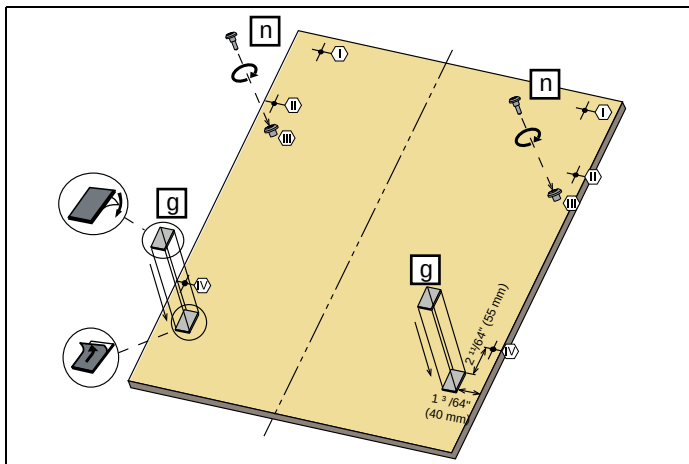

Fig. 25
3) As shown in Fig. 25 , Screws $\varnothing 5/32'' \times 27/32''$ (4mm x 21.5mm) are installed in positions III.
4) As shown in Fig. 25 , Wooden Door Fixing Strips are installed in the positions shown in the figure.